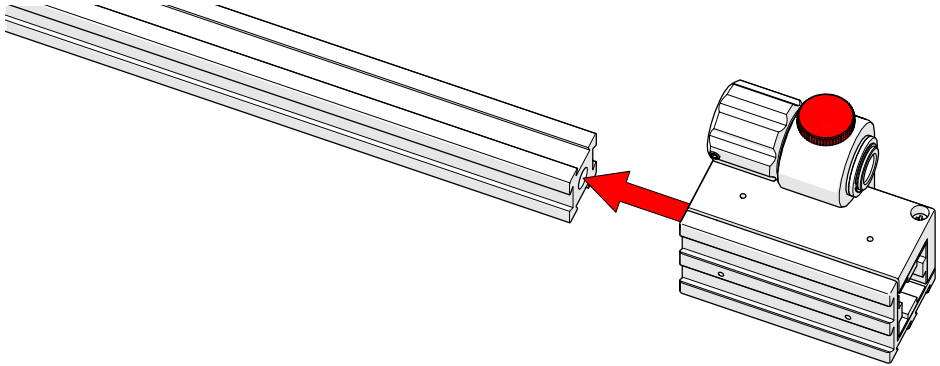

Fig. 61 - Place slider on frame bar and loosen slider lock knob
1. Ease the slider onto the frame bar and push it into position (*Fig. 61*). The slider's friction fit requires an appropriate amount of force to position the slider.
2. Loosen the slider's lock knob (*Fig. 61 - note red highlight*).